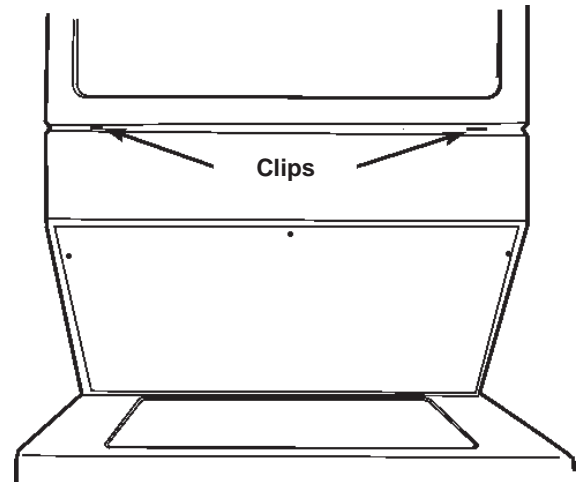

Figure 7
3. Remove lower panel by locating the two (2) release clips located approximately 4" in from each side. Use putty knife to release the clips. See Figure 7.